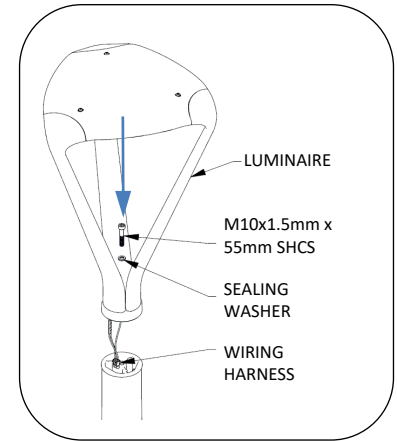

Fig. 5 – Install luminaire
8. Connect luminaire wiring to driver plate assembly, see Fig. 5.